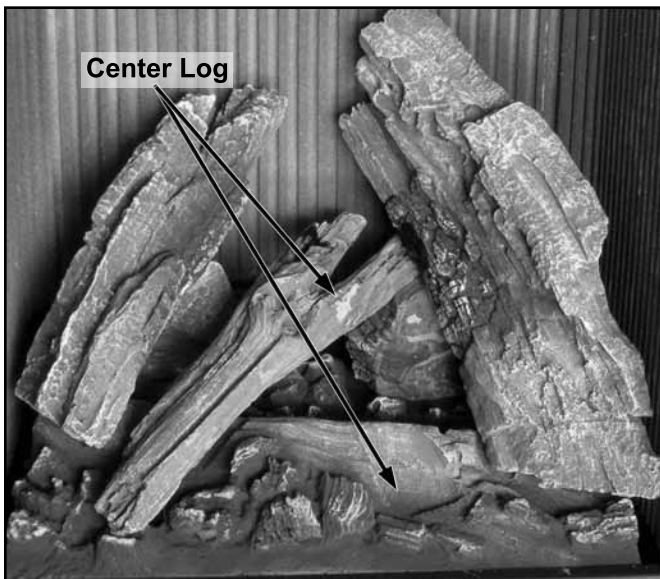

Figure 41: Log Placement of Center Log.
6. Place the bottom of the Center Log in the ledge at the front center of the burner and rest the middle of the log against the top of the "Y" Log as shown in Figure 41 and 42.